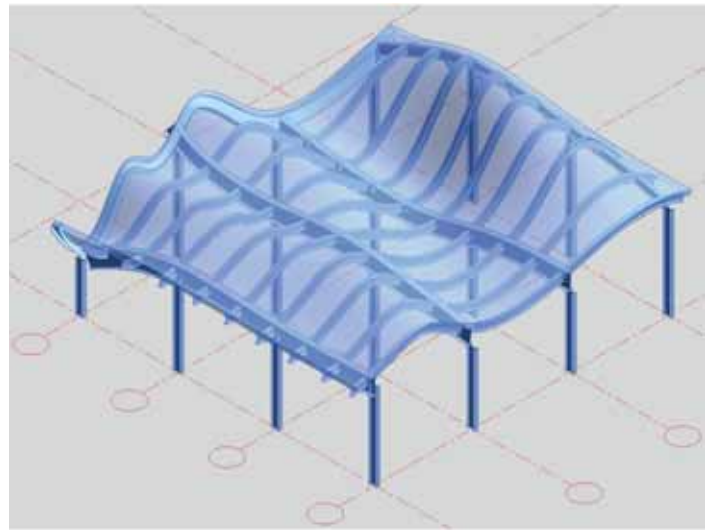

Figure 7 - 3D-View of Final Beam Framing
- Repeat steps 5 and 6 until all the beams are placed. The final roof framing should look similar to Figure 7.